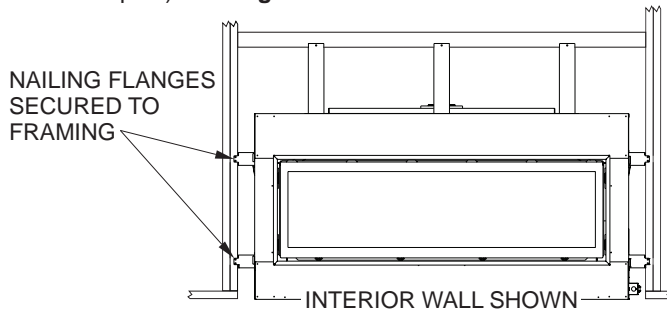

**Figure 22**
3. Secure the four framing brackets and hand bend them into a V shape as shown in **Figure 22**. Secure with #10 x 1/2 inch hex-head screws.
4. Locate the nailing flanges on the sides of the fireplace (two each side). **See Figure 22.**